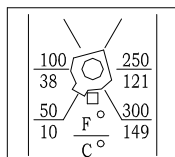

FIGURE 1
5. POSITION STOP COLLAR ON SWITCH SHAFT AT 50°F POSITION. (FIGURE 1)